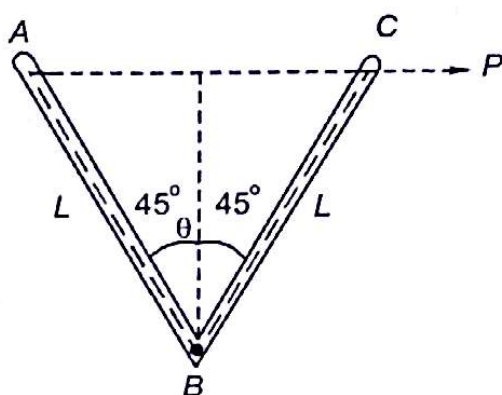

Fig. 9.37
9.6 Figure 9.37 shows a two hinged uniform bars AB and BC of mass m each and length L . If $\theta = 90^\circ$, as shown, what is value of P ?